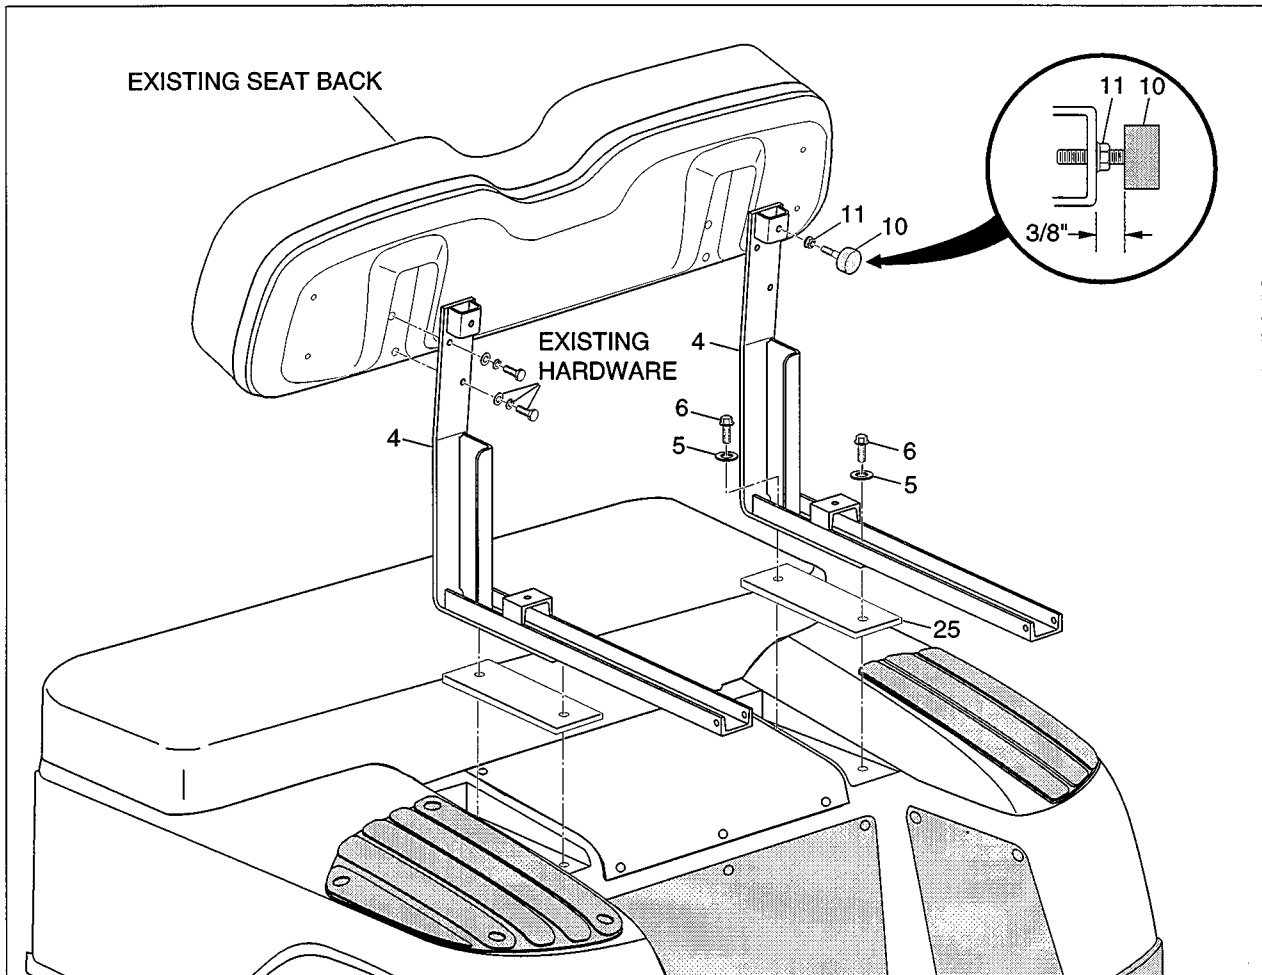

Fig. 3
B. INSTALLING SEAT BACK SUPPORT (Refer to Fig. 3)
2. Place spacer (item 25) on frame and install the new seat back supports (item 4) to the frame using washers (item 5) and bolts (item 6). Finger tighten hardware to allow for adjustment.
4. Install rubber bumpers (item 10) on vertical part of seat support bracket using one lock nut (item 11) (per bumper) as shown in Fig. 3. Tighten to dimension specified.
5. Tighten bolts (item 6) to 21 - 25 ft. lbs. torque.
F. INSTALLING SUPPORT FRAME (Refer to Fig. 3)
1. Insert the nylon bushings (item 21) into the pivot brackets in the support frame (item 26) (4 places).
3. Insert the bolt (item 31) through the pivot from the center of vehicle (2 places) and secure with washer (item 36) and nut (item 34).
4. Secure front of support frame to seat back support using bolt (item 38), washer (item 36) and nut (item 11).
5. Insert end plug (item 44) in each end of both tubes of support frame.
G. INSTALLING FIXED BED (Refer to Fig. 3)
1. Attach fixed bed (item 30) to support frame (item 26) using bolt (item 45) and washer (item 36). (Two places on each end of fixed bed. Do not tighten hardware at this time as some adjustment may be necessary.
H. INSTALLING HANDRAIL (Refer to Fig. 3)
1. Insert end plug (item 42) in each end of handrail (item 27).
2. Attach handrail at forward end of support frame (item 26) using bolt (item 48), lock washer (item 37) and acorn nut (item 35). Do not tighten hardware at this time.
I. INSTALLING LOAD BED AND SEAT BOTTOM (Refer to Fig. 3)
1. Position load bed (item 28) in support frame as shown.
2. Position seat bottom (item 47) in support frame as shown.
3. Insert teflon washer (item 32) between support frame and load bed and again between load bed and seat bottom as shown.
4. Secure all components by inserting bolt (item 23) through handrail, support frame, washer, bed assembly, washer and seat bottom and secure with lock nut (item 34). (See Detail in Fig. 3) Tighten fixed bed hardware to 5 - 7 ft. lbs. torque and handrail hardware to 12 - 14 ft. lbs. torque.
K. INSTALLING SEAT BACK (Refer to Fig. 3)
1. Attach seat back (item 46) to seat back support (item 22) using bolt (item 7), lock washer (item 8) and washer (item 9). Tighten to 5 - 7 ft. lbs. torque.
2. Secure seat back to handrail using bolt (item 39) and acorn nut (item 40). Tighten to 5 - 7 ft. lbs torque.
3. Insert end plug (item 33) in each end of seat back support tube.